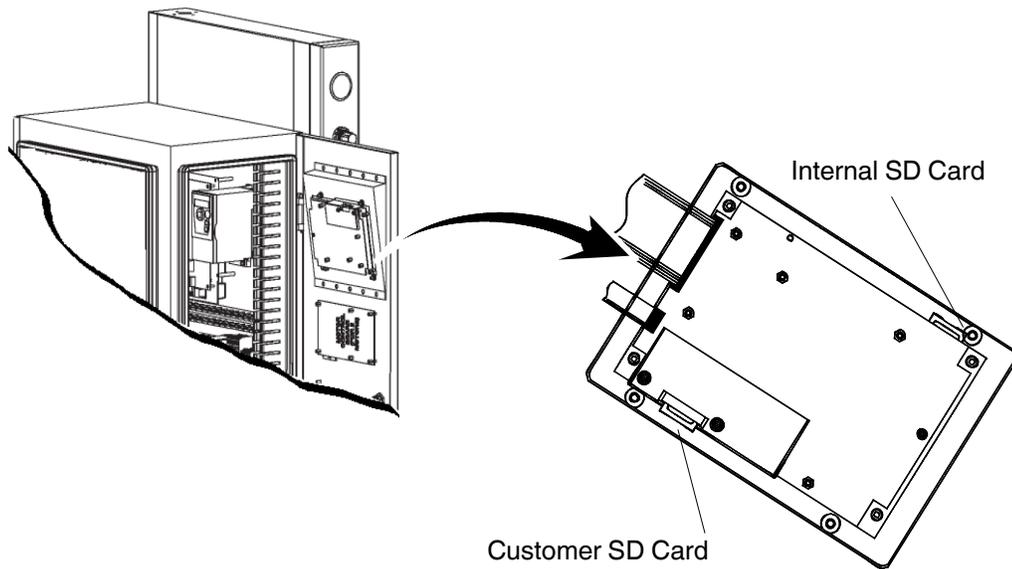

Figure 7-1 Location of the Customer and Internal SD Cards.
2. Locate and remove the Customer SD card. Refer to Figure 7-1.
- Recipes are stored in the *\Recipes* folder located on the Internal SD Card. Refer to Figure 7-1 to locate the Internal SD card.
2. Remove the Internal SD card and place it into your SD Read/Write device that is connected to your computer. Refer to Figure 7-1 to locate the Internal SD card.
- Touch **Save File** to write *ALL* events, regardless of which filter you selected to the Customer SD card. Refer to Figure 7-1.
6. Refer to Figure 7-1 to locate and remove the Customer SD card from the LCD module, then place it into the SD Card device connected to your computer. By default, the following files are created:
1. Refer to Figure 7-1 to locate and remove the Customer SD card, and place it into your SD Card device connected to your computer.